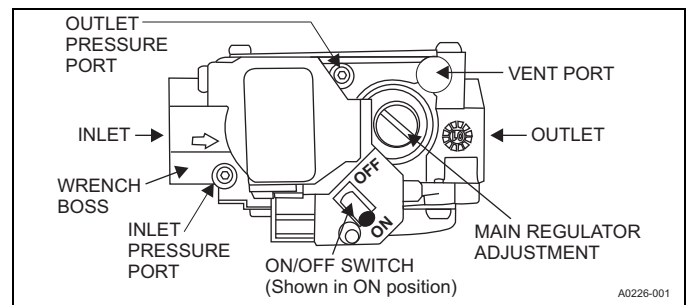
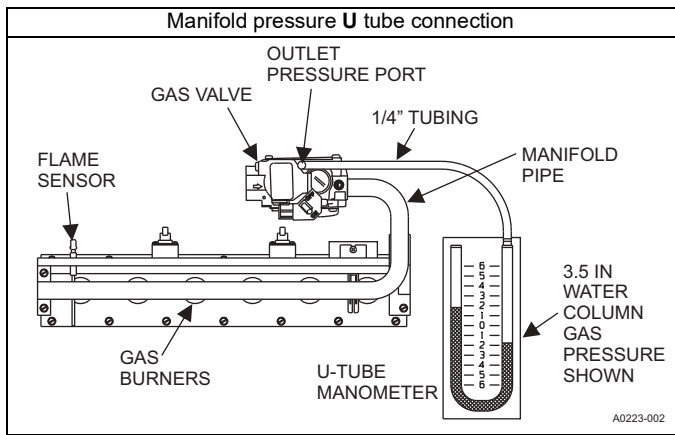

Figure 9: Gas valve
Figure 10: Reading gas pressure
Inlet and manifold gas pressure can be measured by connecting the U tube manometer to the gas valve with a piece of tubing. Follow the appropriate section in the instructions below. See Figure 9 for the locations of the pressure ports on the gas valve.
Connect the positive side of the manometer to the IN P Tap on the gas valve. Do not connect any tubing to the negative side of the manometer, because it references atmospheric pressure. See Figures 9 and 10 for connection details.
Connect the positive side of the manometer to the OUT P Tap on the gas valve. Do not connect any tubing to the negative side of the manometer, because it references atmospheric pressure. See Figure 9 and Figure 10 for connection details.
- See Figure 9 for location of pressure regulator adjustment cap and adjustment screws on main gas valve.